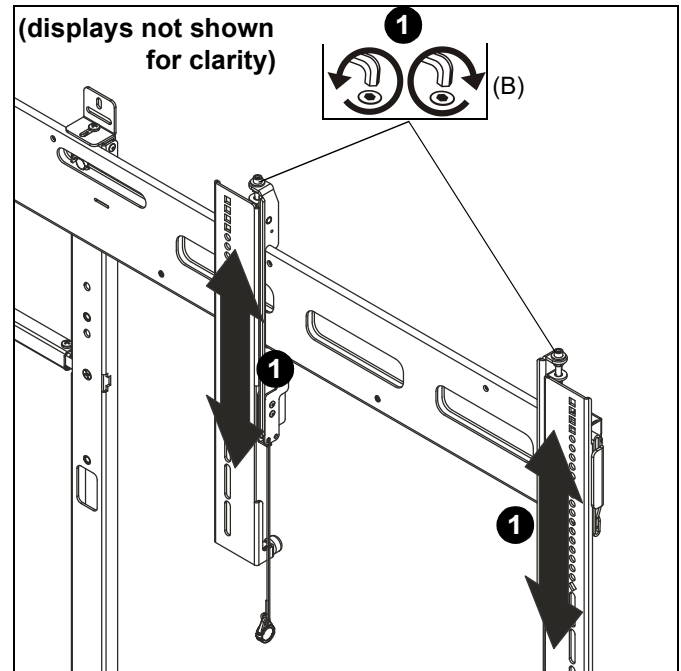

Figure 14
1. Use 3/16" x 10" hex key (B) to adjust height of uprights (L and M). (See Figure 14)